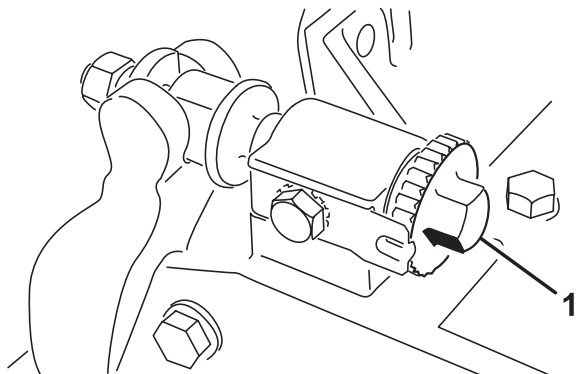
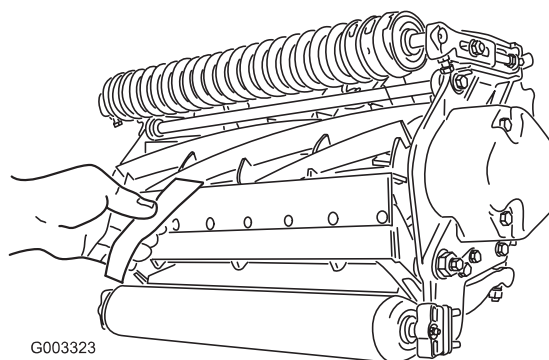

Figure 7
Figure 8
1. Position machine on a flat, level work surface. Make sure reel contact is removed by turning bedbar adjusting screws counterclockwise (Fig. 7).
3. At one end of reel, insert a strip of newspaper between reel and bedknife (Fig. 8). While slowly rotating reel forward, turn bedbar adjusting screw (Fig. 7) clockwise (on same end of reel, one click at a time, until paper is pinched lightly, when inserted from the front, parallel to the bedknife. A slight drag will be noted as the paper is pulled.
5. After adjustment is accomplished, check to see if reel can pinch paper when inserted from the front and cut paper when inserted at a right angle to the bedknife (Fig. 8). It should be possible to cut paper with minimum contact between the bedknife and the reel blades. If excessive contact/reel drag is evident it will be either necessary to backlap or re-grind the cutting unit to achieve the sharp edges needed for precision cutting (Refer to the Toro manual for Sharpening Reel and Rotary Mowers, Form No. 80-300PT).